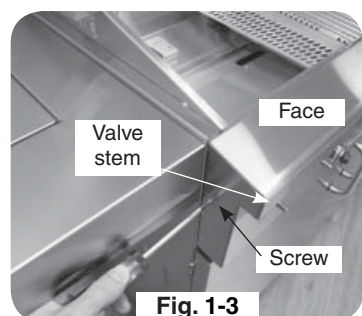

Fig. 1-3
5. With the burner valves in the **OFF** position, pull the valve knobs from their stems. Use a Phillips screwdriver to remove the face fastener screws on either side of the barbecue face (see Fig. 1-3). Release the face by lifting it slightly and remove it from the barbecue. Make sure to retain the screws and finish washers for re-attaching the face plate.